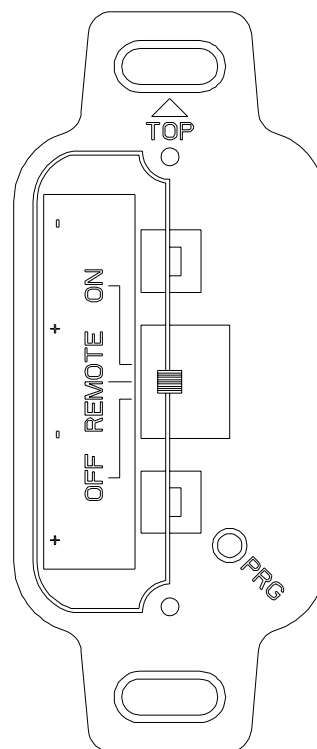

Figure 8.4.
3. Press the black initialization button (PRG) at the lower right of the battery box faceplate (fig. 8.4, page 27). The board will “beep” three times signalling a 10-second synchronization time limit.